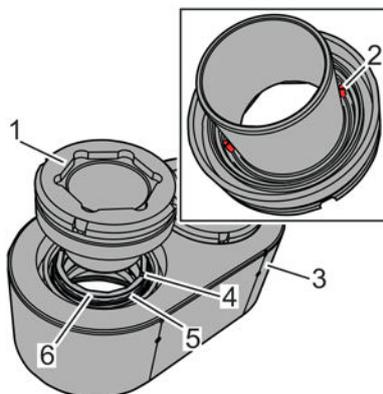

Fig. 109: Releasing the rotating slide ring sealing part
3. Remove the slide ring sealing parts (Fig. 109/1) on both sides from the bearing housing (Fig. 109/2) and place to the side. Ensure that the driving pins (Fig. 109/2) remain in the rotating slide ring sealing parts.
4. Remove the slide ring (Fig. 109/6) with the O-ring (Fig. 109/5) on both sides.
5. Remove the O-ring (Fig. 109/5) from the slide ring (Fig. 109/6), clean with a lint-free cleaning cloth, check for damage and place to the side.